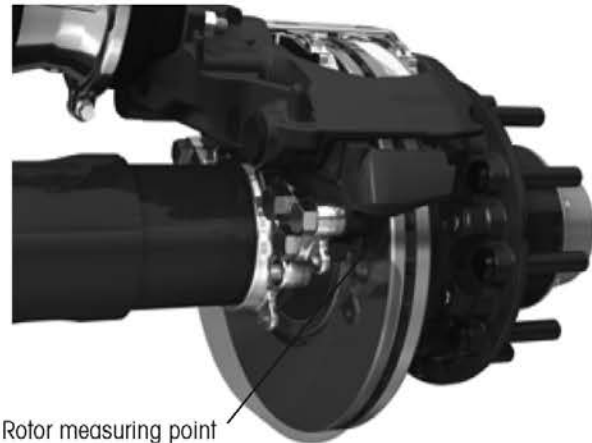
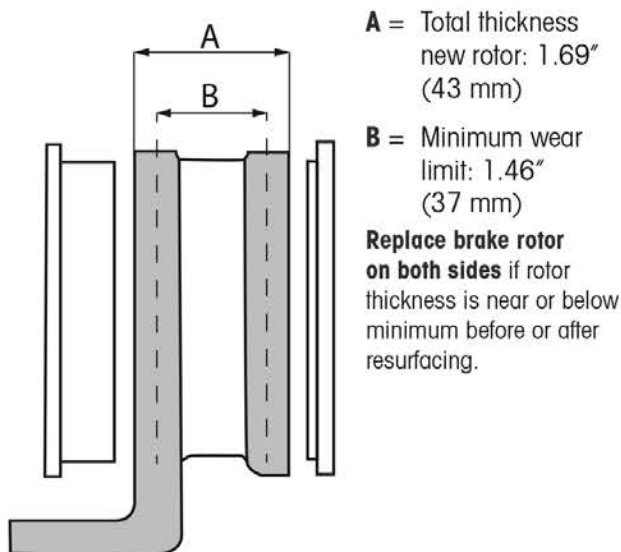
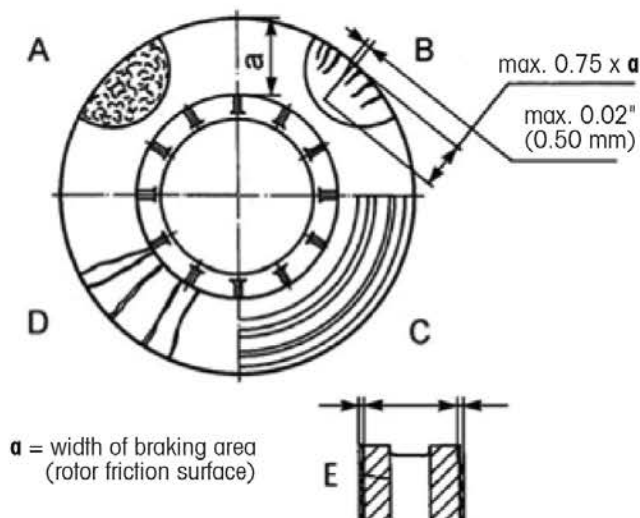

Figure 9: Measuring rotor thickness
Figure 10: Rotor thickness
Figure 11: Rotor condition analysis
1. **Measure** brake rotor thickness at the braking area (friction surface) at 3 points, 120° apart. Refer to Figure 9, Figure 10 and Figure 11 for rotor condition examples and measurements.
2. **Check** the brake rotor for cracks and the condition of the friction surface (Figure 11).
3. **Replace** the brake rotor or have it properly resurfaced if the brake rotor runout is more than 0.006" (0.15 mm). Also replace if, after resurfacing, the thickness is below minimum (Figure 10 on page 12).